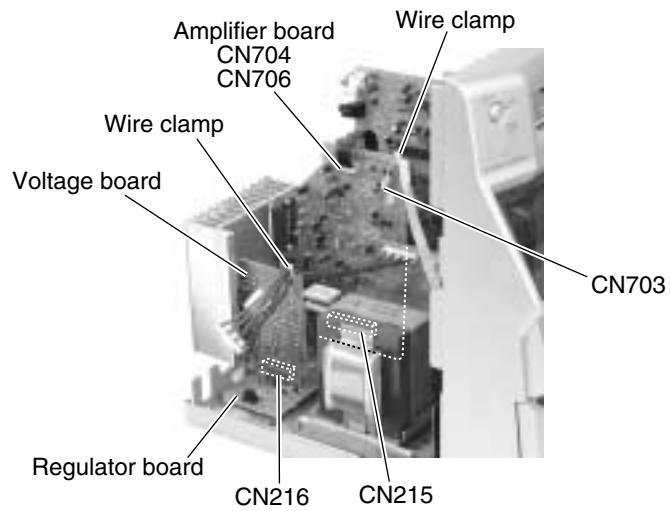

Fig.21
■ Removing the amplifier board / voltage board / heat sink (See Fig.21 and 22)